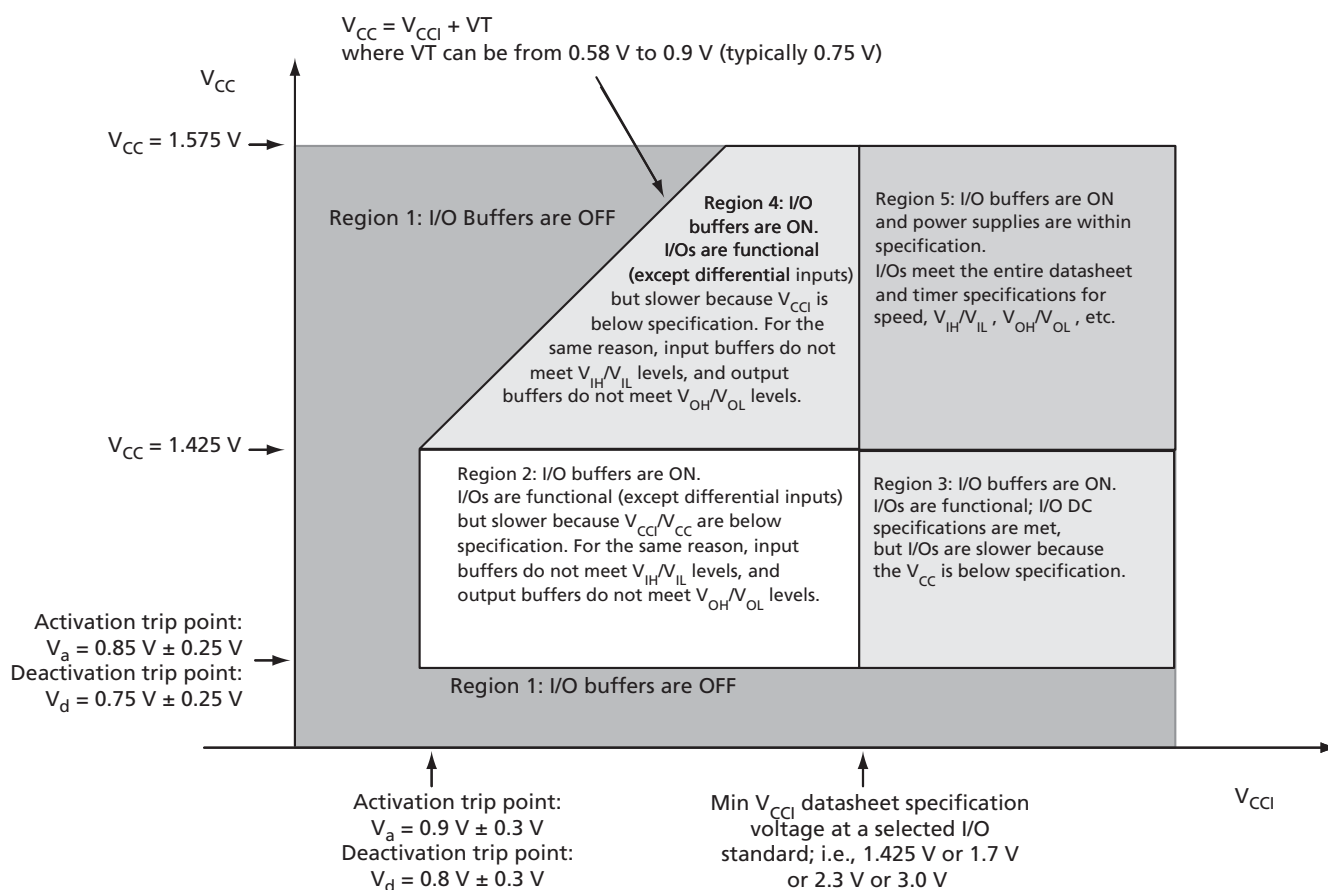

Figure 3-1 • I/O State as a Function of V_{CCI} and V_{CC} Voltage Levels
Sophisticated power-up management circuitry is designed into every ProASIC3E device. These circuits ensure easy transition from the powered-off state to the powered-up state of the device. The many different supplies can power up in any sequence with minimized current spikes or surges. In addition, the I/O will be in a known state through the power-up sequence. The basic principle is shown in Figure 3-1.
1. V_{CC} and V_{CCI} are above the minimum specified trip points (Figure 3-1).